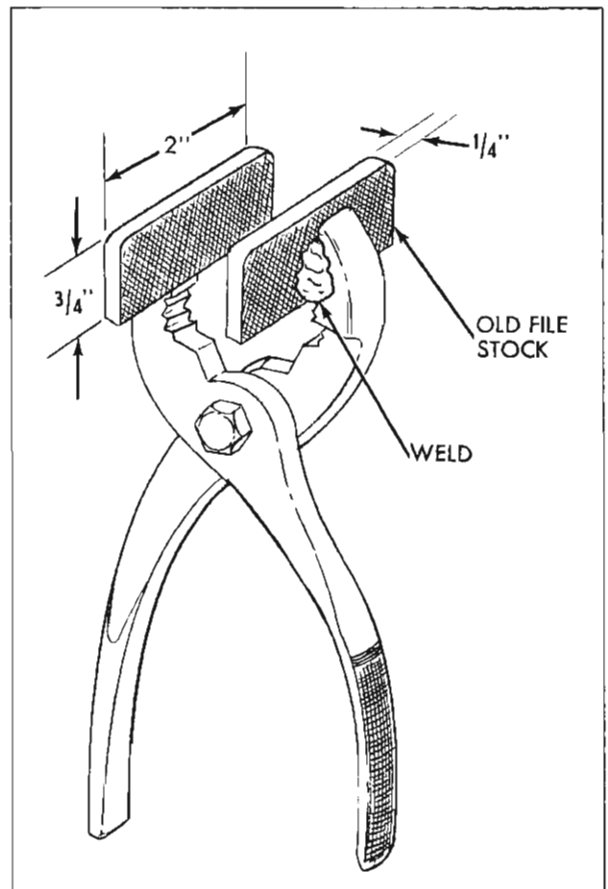

Fig. 21-75 Fabric Cover Pliers
**NOTE:** Where new cover is installed at temperatures below 72°, pliers fabricated as shown in Figure 21-75 will aid in removing wrinkles.